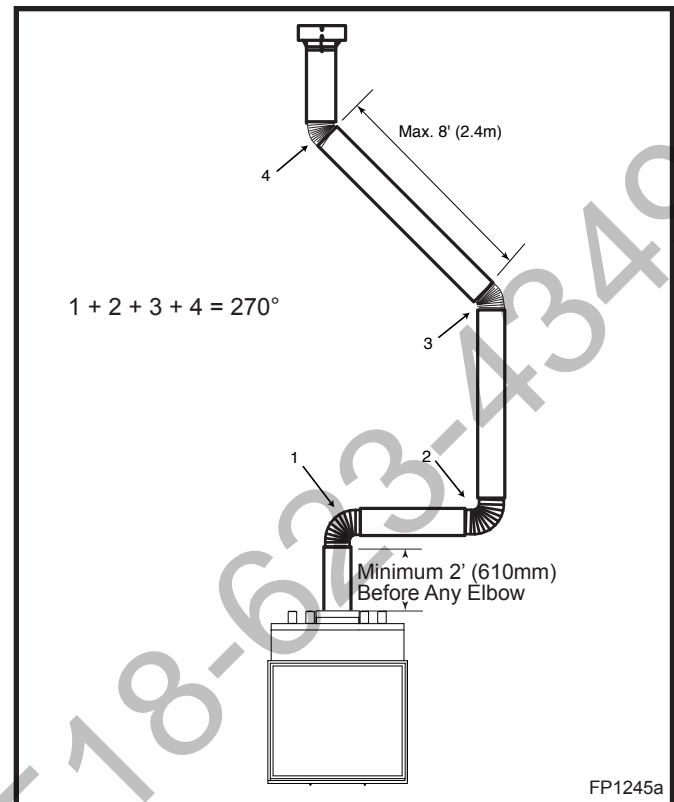

Fig. 29 Typical offset application.
- Two sets of 30° or 45° elbows offsets within these vertical installations. From 0 to a maximum of 8' (2.4 m) of vent pipe can be used between elbows. (Fig. 29)